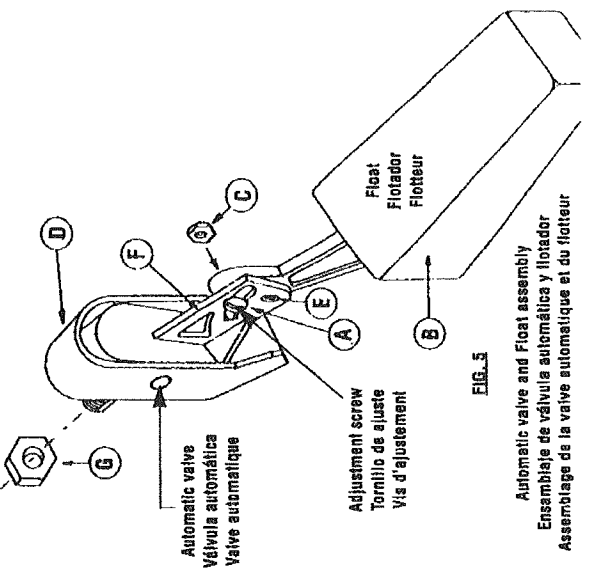

FIG. 5
- Take the float (B) and install it behind the valve lever (F) with the pivot pin (E) fitted in the round hole (Please see Fig. 5).
- Insert the screw (A) in the kidney-shaped opening through the valve lever (F) and the float arm (B) and screw it into the nut (C) installed in the hexagonal housing of the float arm.
- Partially tighten the screw (A).